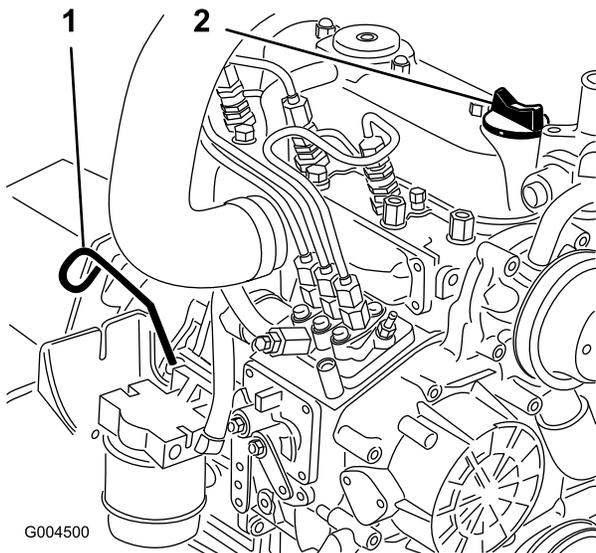

Figure 40
- Remove the dipstick (Figure 40), wipe it clean, and install the dipstick. Remove the dipstick and check the oil level.
- If the oil level is below the Full mark, remove the fill cap (Figure 40) and add oil until the level reaches the Full mark on the dipstick.